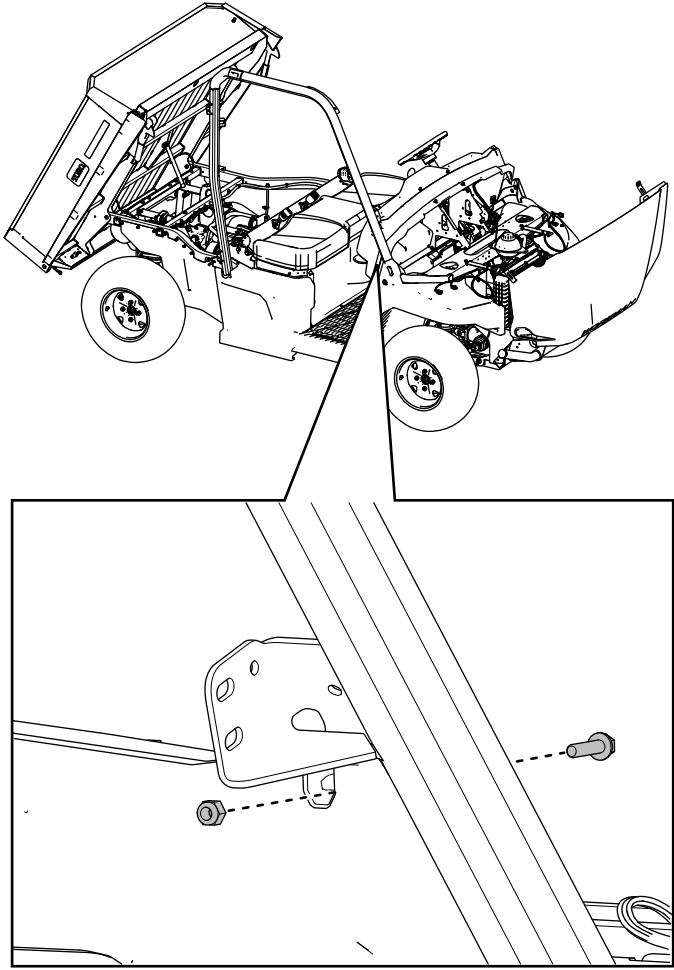

Figure 15
9. Loosely secure the right, front roll bar assembly to the dash panel using 1 hex-washer head bolt (1/4 x 1 inch) and 1 locknut (1/4 inch) as shown in Figure 15.